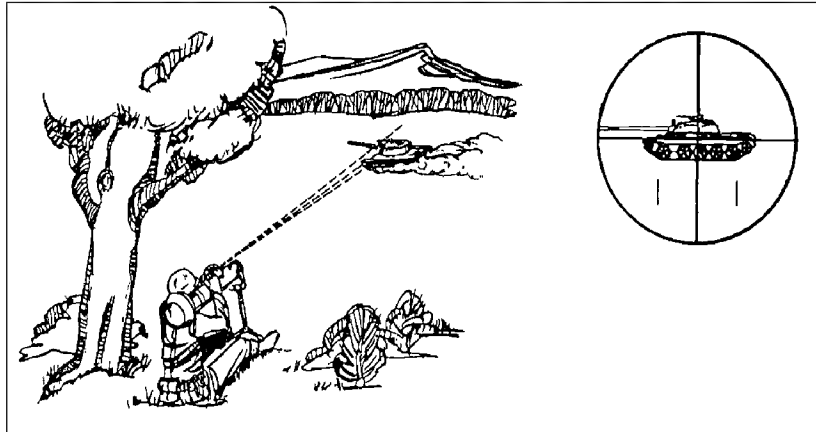

Figure 2-8. Correct sight picture.
b. To fire the weapon, push the safety plunger in with the thumb of the right hand, depress and hold the trigger, and maintain the sight picture until impact (Figure 2-8). When engaging a moving target, move the upper part of your body left or right to adjust for azimuth; move up and down to adjust for elevation. Jerking, bumping, or moving the sight while the missile is in flight may cause you to miss the target. To establish a smooth tracking rate, track the target for about two seconds before squeezing the trigger.